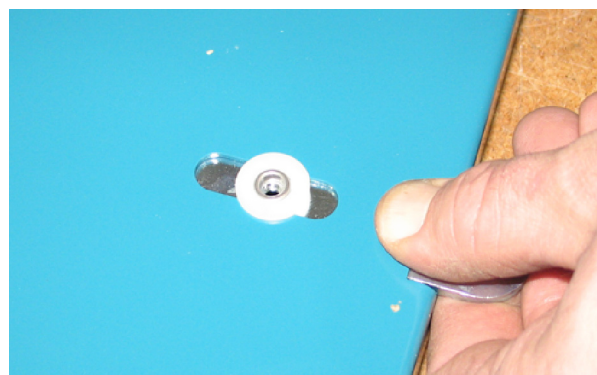
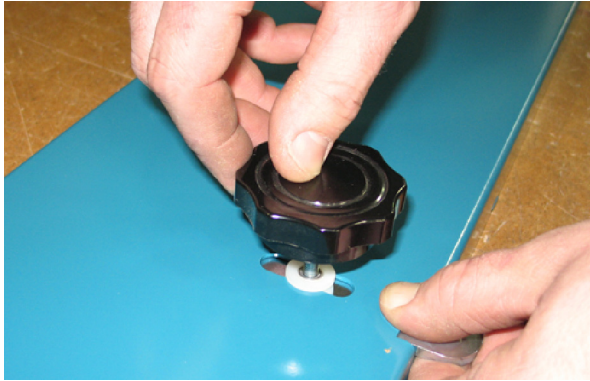
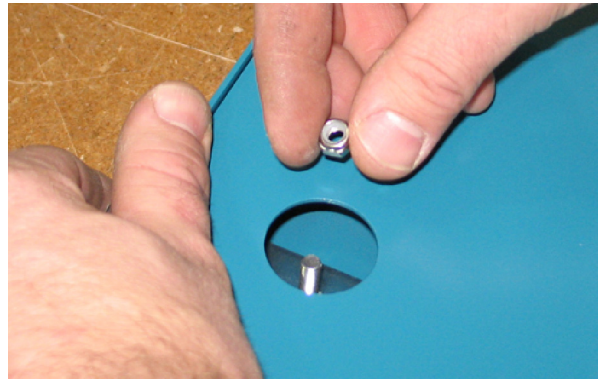
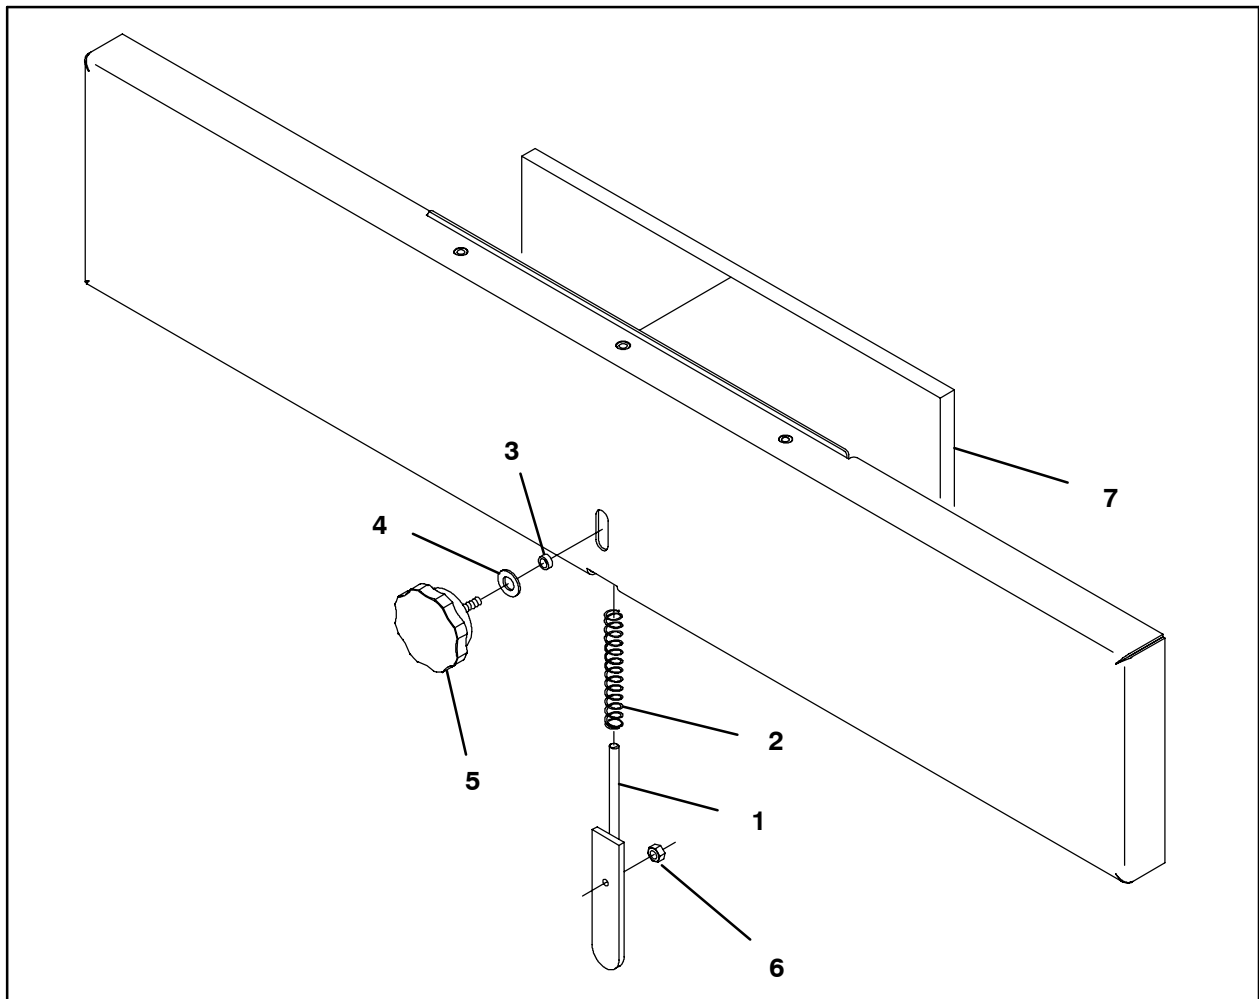

FIG. 2
FIG. 3
FIG. 4
FIG. 5
6. Slide the spring (2) onto the latch (1) and slide the latch into the door. Refer to Fig. 1 and Fig. 5.
7. Align the hole in the latch (1) in the center of the notch and place a spacer (3) and washer (4) onto the door/latch. Refer to Fig. 2 and Fig. 5.
8. Thread the knob (5) into the latch. Refer to Fig. 3 and Fig. 5.
9. Install the hex nut (6) onto the knob (5). Refer to Fig. 4 and Fig. 5.
10. Install the foam seal (7) onto the back of the door. Refer to Fig. 5.